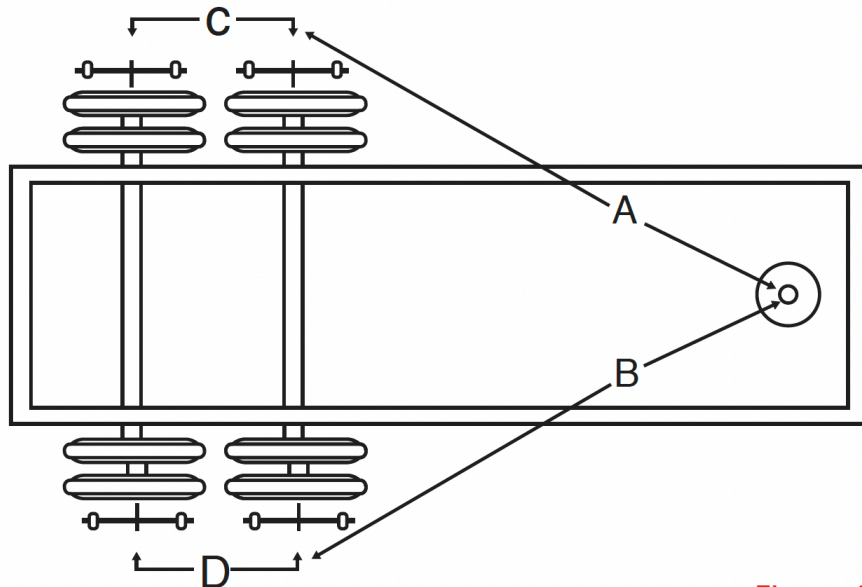

Figure 1
4. Once the trailer has been unhooked, the alignment is checked. Measure with a tape measure the distance between the king bolt and the tip of the pointed piece that is screwed on the bottom of each drum (distance A and B, the allowed tolerance between them is $\pm 1/8"$) (*See Figure 1*).
Repeat the operation for the right side of the axles and check if the measurements are equal, if they are not equal the axles should be aligned (See Figure 1).
5. If the front axle is aligned, measure the distances between the rear and front axles on the two sides. The distances D and C must be equal (See *Figure 1*).